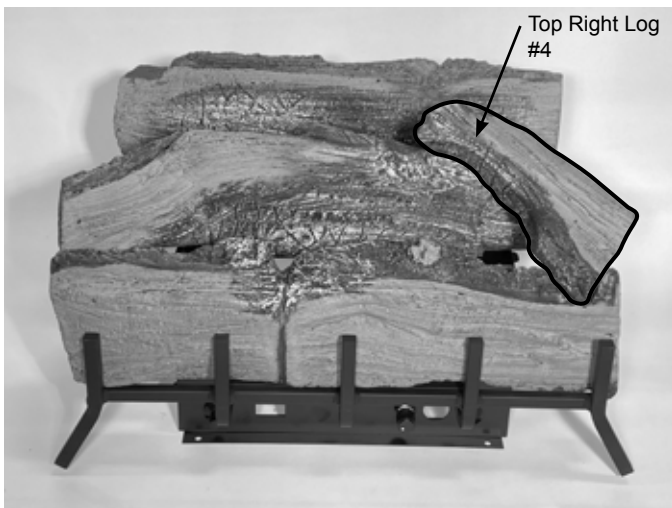

Figure 6.4 - Place Top Right Log
4. Place Top Right Log (#4) by resting log on front and middle log. Figure 6.4